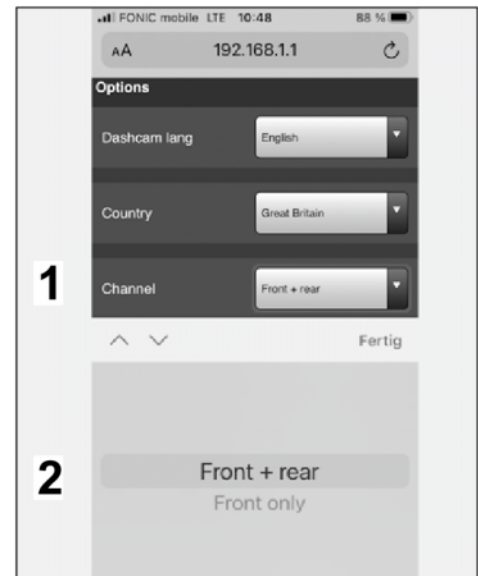

Figure 23
5.3.3 Select the required camera channel (⇒ *Figure 23*).